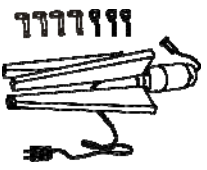
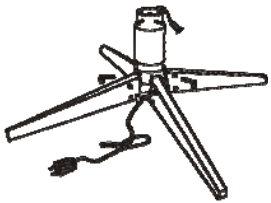
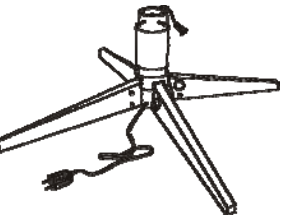

Fig.1
Fig.2
Fig.3
1. Tree stand parts include: rotating metal stand, 4 eye bolts and 3 screw bolts. (See Fig.1)
2. Open stand on 90 degree angle until the holes line up with the holes on the tube. Screw an eye bolt into each hole. (See Fig.2)
3. Screw the screw bolts into the hole. (See Fig.3)
- 3. Insert lower section(C) into the tree stand base (D) and tighten the screws (see Fig.1); Insert the middle section (B) into (C) (see Fig. 2). Insert the top section (A) into (B) (see Fig. 3).